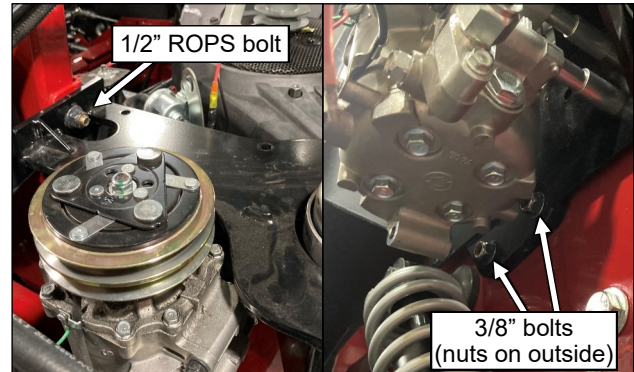

Fig. 5.1 (A/C compressor bracket)
- 5.1 See fig. 5.1. Place the front flange of the A/C compressor bracket over the 1/2" ROPS bolt on the left side ROPS and loosely place a nut over the bolt. Secure the side flange of the compressor bracket to the rear vehicle flange with two 3/8" bolts installed from inside the frame. Torque the 1/2-13 ROPS bolts to 50 ft-lbs. (68 N-m).